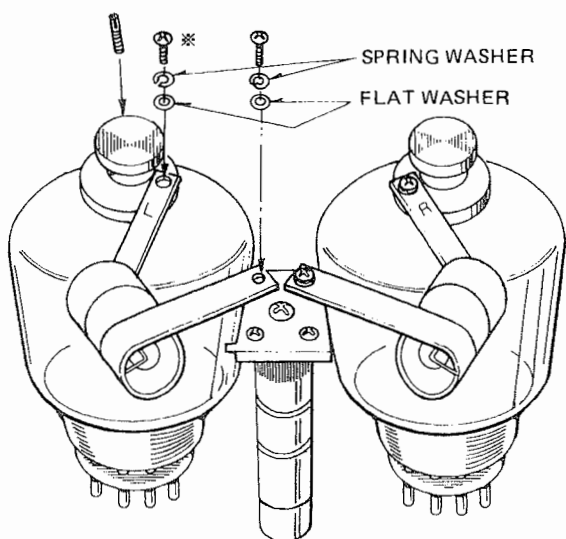

Figure 3 – Parasitic Suppressor Coil Mounting
7. (Refer to Fig. 3) Temporarily fix each parasitic suppressor coil on the plate cap with the letter "R" or "L" facing up. At this time, do not tighten the 4 mm screw and spring washer, but snug them so the coil may be adjusted.
11. Check to assure correct installation by reference to Fig. 3.